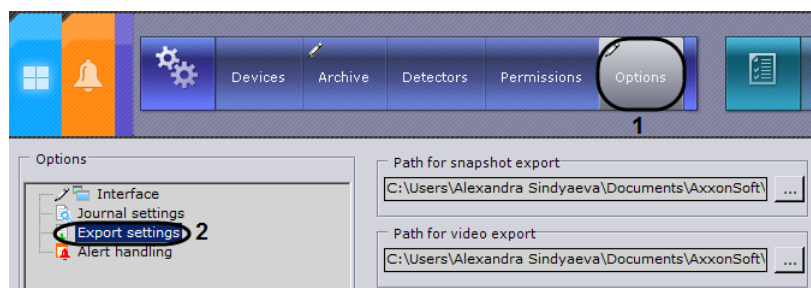

Fig. 6.8—1 Configuring export
1. Go to **System settings**⇒**Options**⇒**Export settings** (Fig. 6.8—1, 1-2).